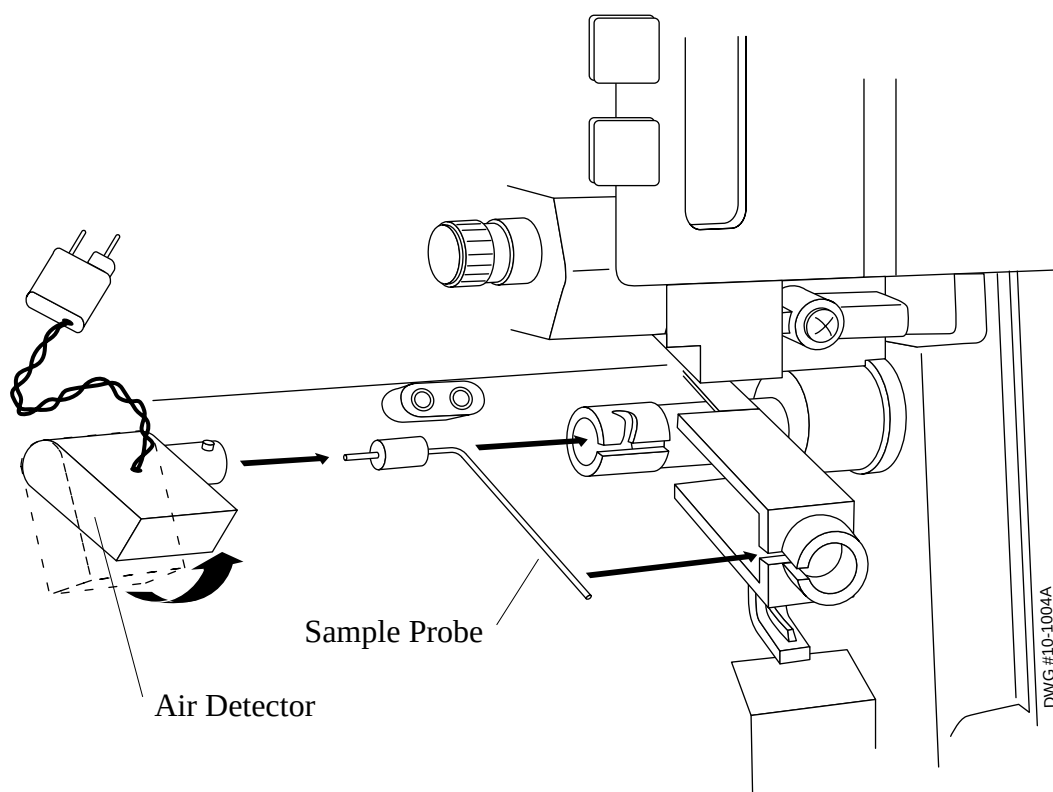

Figure 12.7 Replacing Probe and Air Detector
8. Place a new probe into the air detector and slide both into the sampler assembly. (See Figure 12.7.)